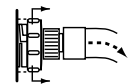

Figure 13.2m
5. Pull the larger (rear) body outward as shown to open drain, Figure 13.2m.